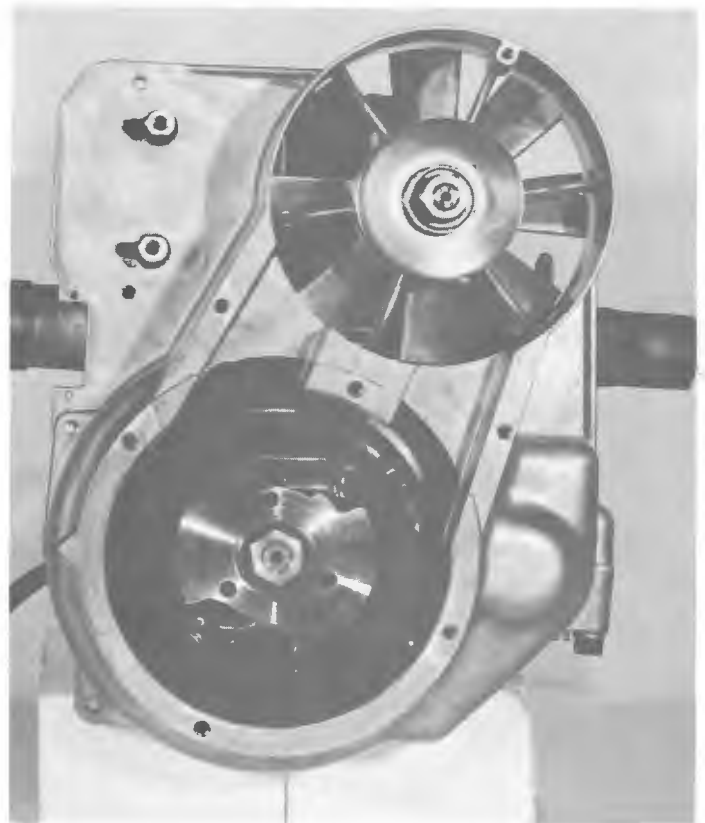

FIGURE 5-9 FAN COVER AND FLYWHEEL INSTALLED
5.2.6 Fan Cover Case and Flywheel (See Figure 5-9)